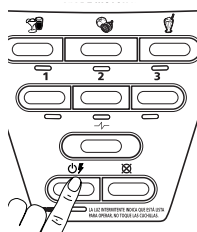

Fig. 19
1. Press the power button  (Fig. 19) to turn the product on. The power light will blink, meaning the product is active and ready to use.
7. Press the power button  (Fig. 19) to turn the product off.